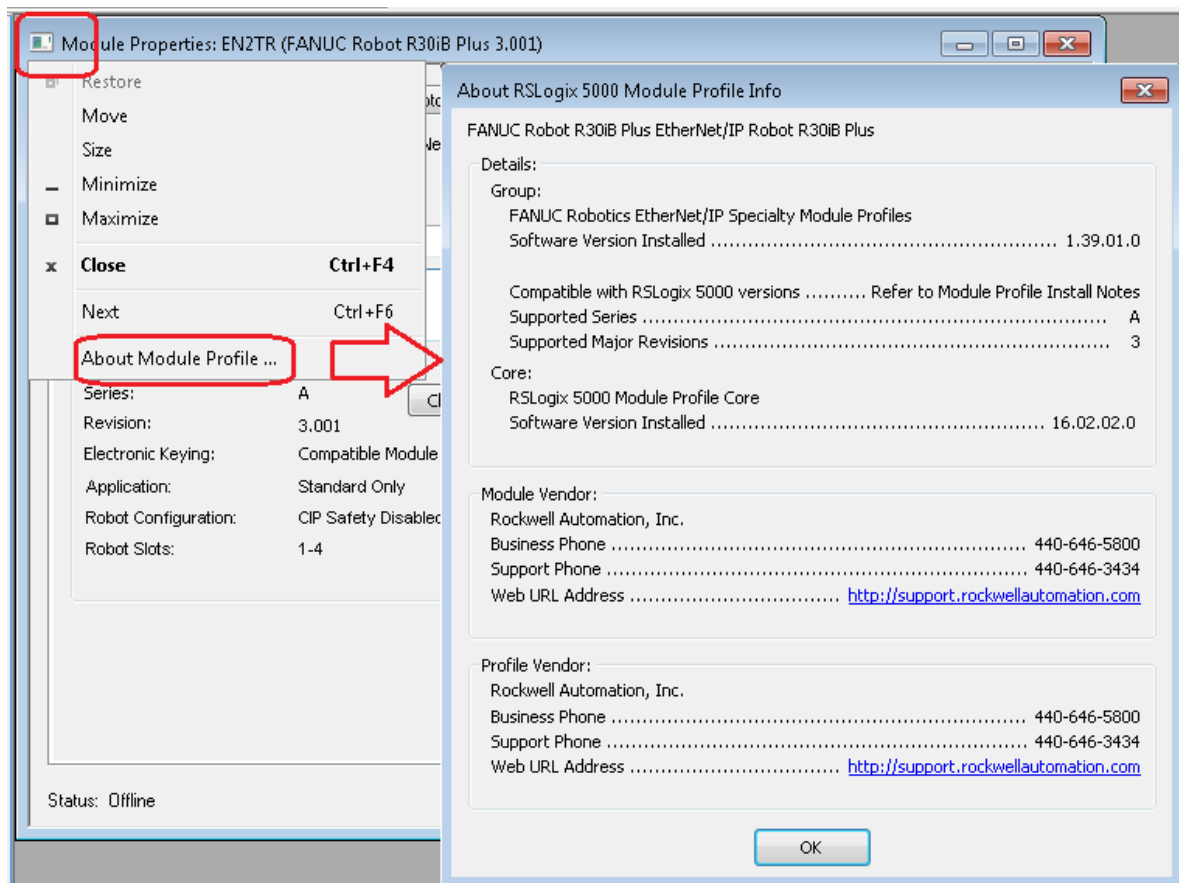

Fig. 3.2.2 (d) AOP Version
- The following screens show how to configure the scanner using FANUC's Add-On-Profile (AOP) in RS-Logix5000 software, which is used with the Allen Bradley ControlLogix PLC. AOP version that supports R30iB and R30iB Plus both is v1.39.01.0. This section demonstrates setting up the scanner connection between a GuardLogix PLC (v26.1)) and a FANUC Robot R30iB Plus using the v1.39.01.0 AOP. The FANUC Robot AOP v1.39.01.0 is included in the official Rockwell Studio 5000 v31 release. AOP version can be found following direction in Fig. 3.2.2 (d).